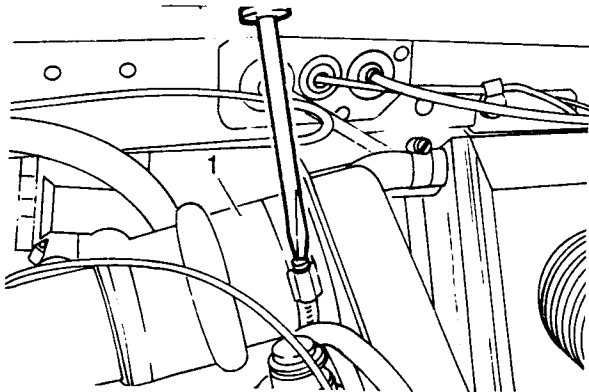

Fig B4.78
- (2) Refer to Fig B4.78. Remove the air intake hose (1) between the air cleaner and the air intake box.